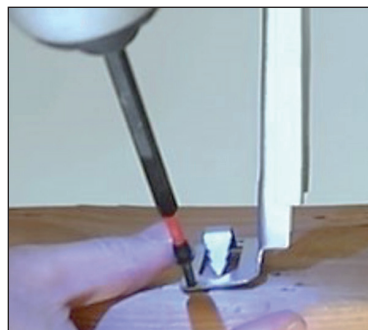

Fig. 7
- Permanently secure hanger bars to joist with hardware provided by others. [ Fig. 7 ]